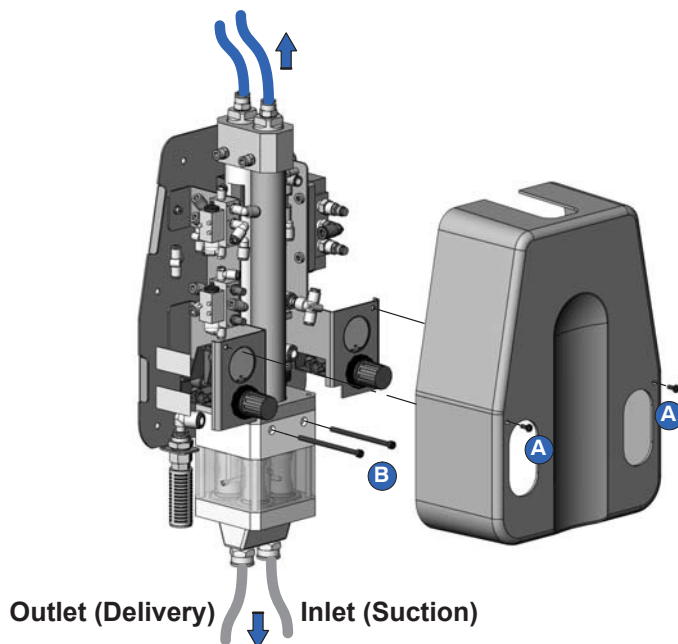

Figure 1 Removing the Pump Assembly
1. See Figure 1. Disconnect the purge air lines from the top of the pump.
3. Remove the two screws (A) and the cover from the pump.
5. See Figure 1. Remove the two screws (B) securing the pump assembly to the base. Remove the pump assembly to a clean work surface.
2. See Figure 1. Install pump assembly onto base and secure using two screws (B)
5. See Figure 1. Install the cover and the two screws (A) onto the pump.